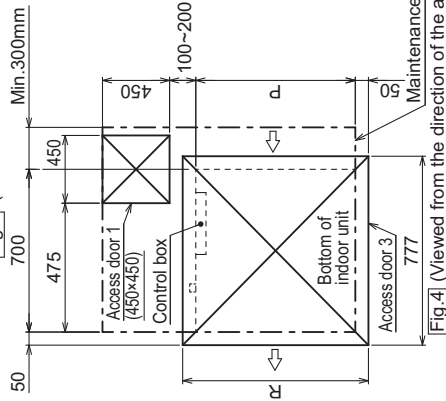

Fig.4 (Viewed from the direction of the arrow B)
- Create access door 1 diagonally below the control box and access door 3 below the unit as shown in Fig.4.
· Create access door 1 diagonally below the control box and access door 3 below the unit as shown in Fig.4.
[Fig.4] (Viewed from the direction of the arrow B)